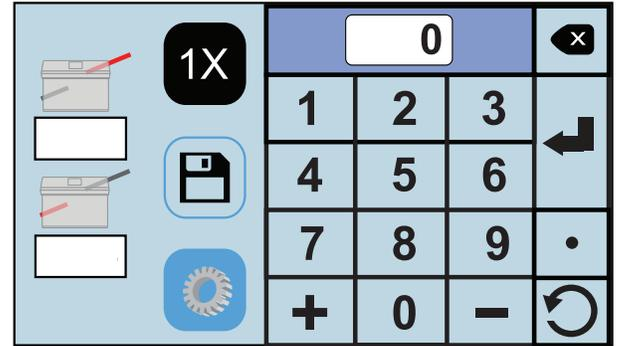

Fig. 56a
2. Select the upper fold plate icon “” to adjust the fold stop position for the first fold (the icon will turn a dark gray when selected). Using the touch pad, key in the number or use the “=” and “-” keys to make the adjustment. for the first fold stop position (Fig. 56a). Press the enter key “” to enter the measurement. The white box under the icon will show the measurement entered.